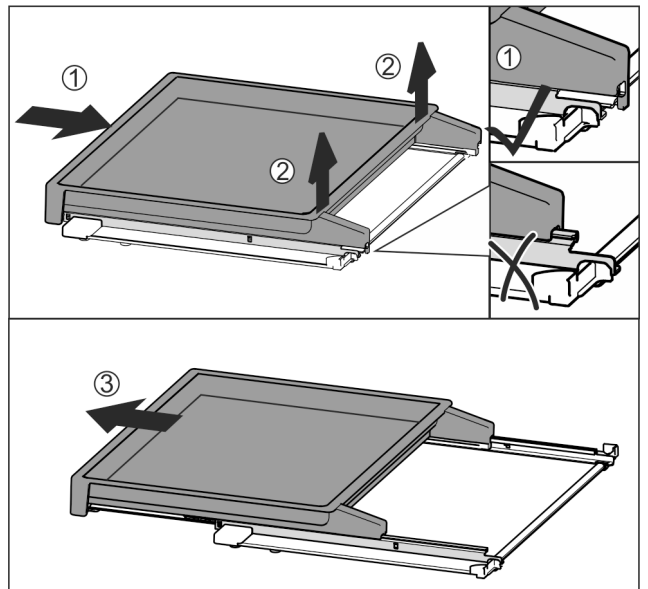

Fig. 50
- Slide the pull-out board all the way in Fig. 50 (1).
- Release the clips at the back Fig. 50 (2).
- Remove the pull-out board from the front Fig. 50 (3).